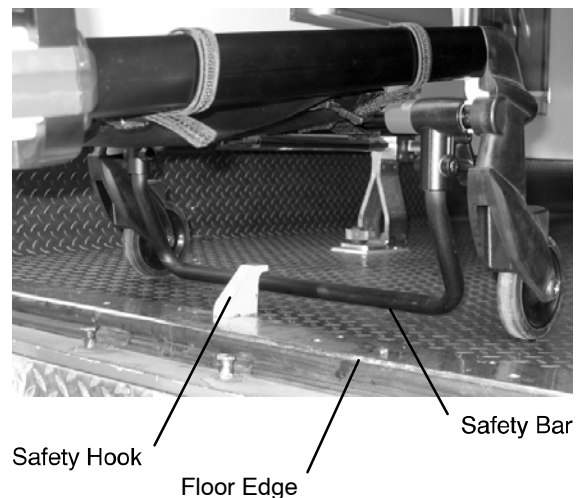

Figure 13 – Safety Bar Engaging Safety Hook
15. Verify the safety hook **always** engages the cot safety bar when the cot is unloaded from the vehicle (Figure 13). If the ambulance floor is wider than normal, an additional safety hook may be required.